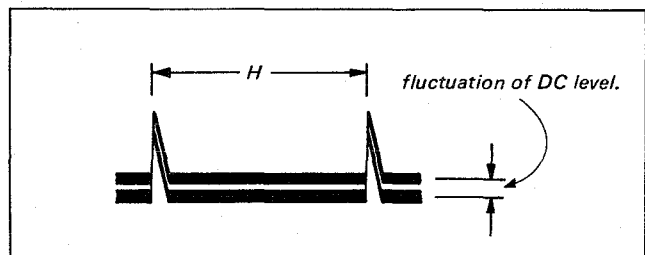

Fig. 5-30. AFC offset adjustment
- i) Adjust RV005 so that the fluctuation of DC level is minimum. (See Fig. 5-30.)